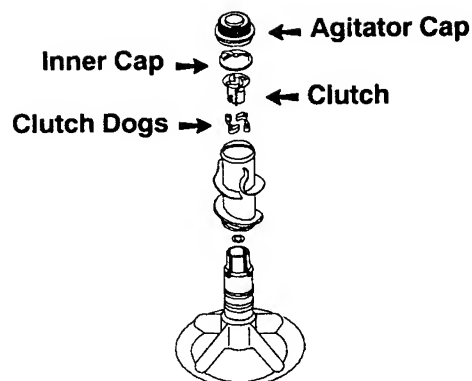

Fig. 57
3. The Surgilator Agitator is removed by first pulling off the agitator cap and inner cap. Then unscrew the 7/16" bolt found under the cap and pull straight up on the two-piece agitator assembly. The clutch and clutch dogs that provide the Surgilator action are found in the upper portion of the agitator assembly. (Fig. 57)